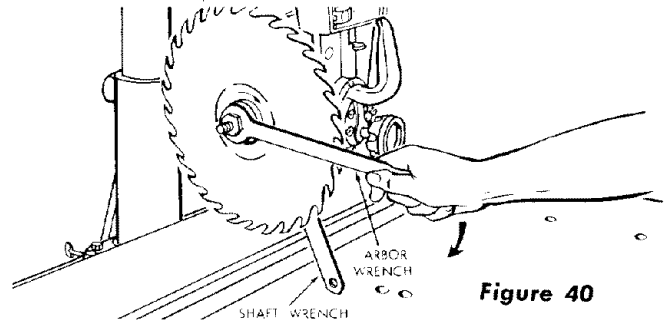
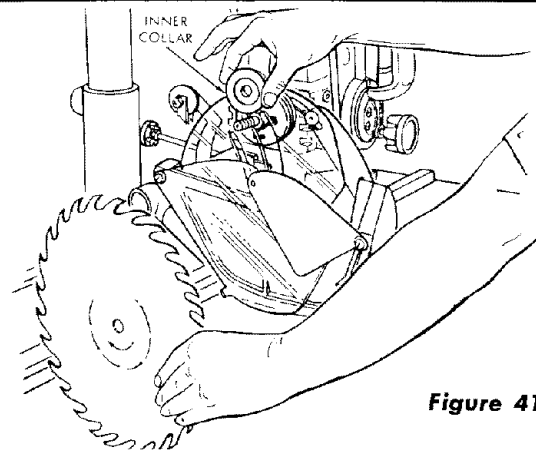

Figure 40
Figure 41
- (1) Move the carriage slightly rearward of mid-position on radial arm and tighten the carriage lock knob.
- (2) Elevate the saw blade 30 turns of the elevation crank.
- (3) Position wrenches as shown in figure 40.
- (4) Remove shaft nut, outer collar, saw blade and inner collar.
- b. Hold the guard in upside-down position and slide it into position on the motor shaft, allowing it to hang by the slot in the inner (clear plastic) assembly. (See figure 41.)